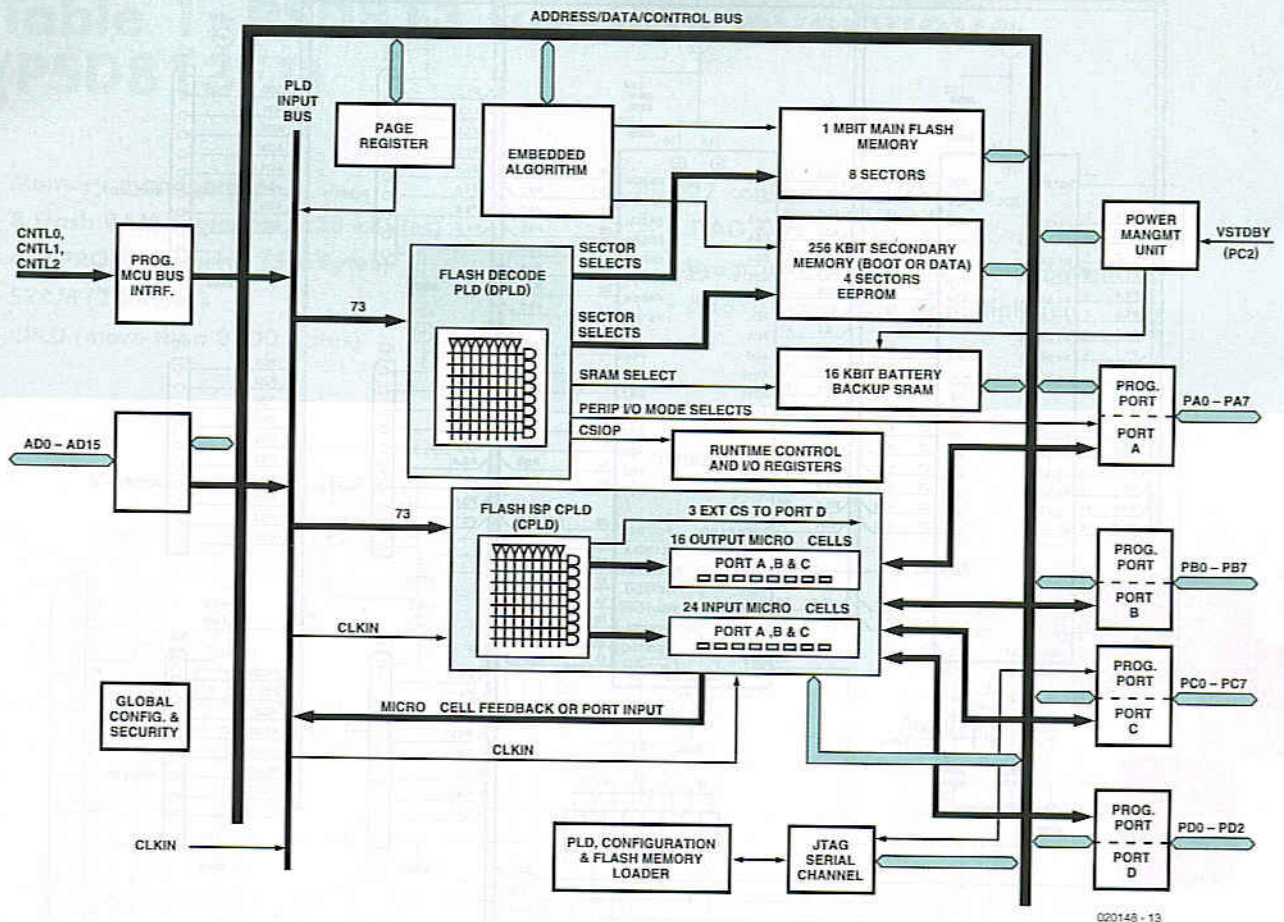

Figure 1. Internal structure of the smart 'all-in-one' chips from the PSD813xxx series.
**Figure 1** shows a block diagram illustrating the internal structure of the PSD813xxx chips.